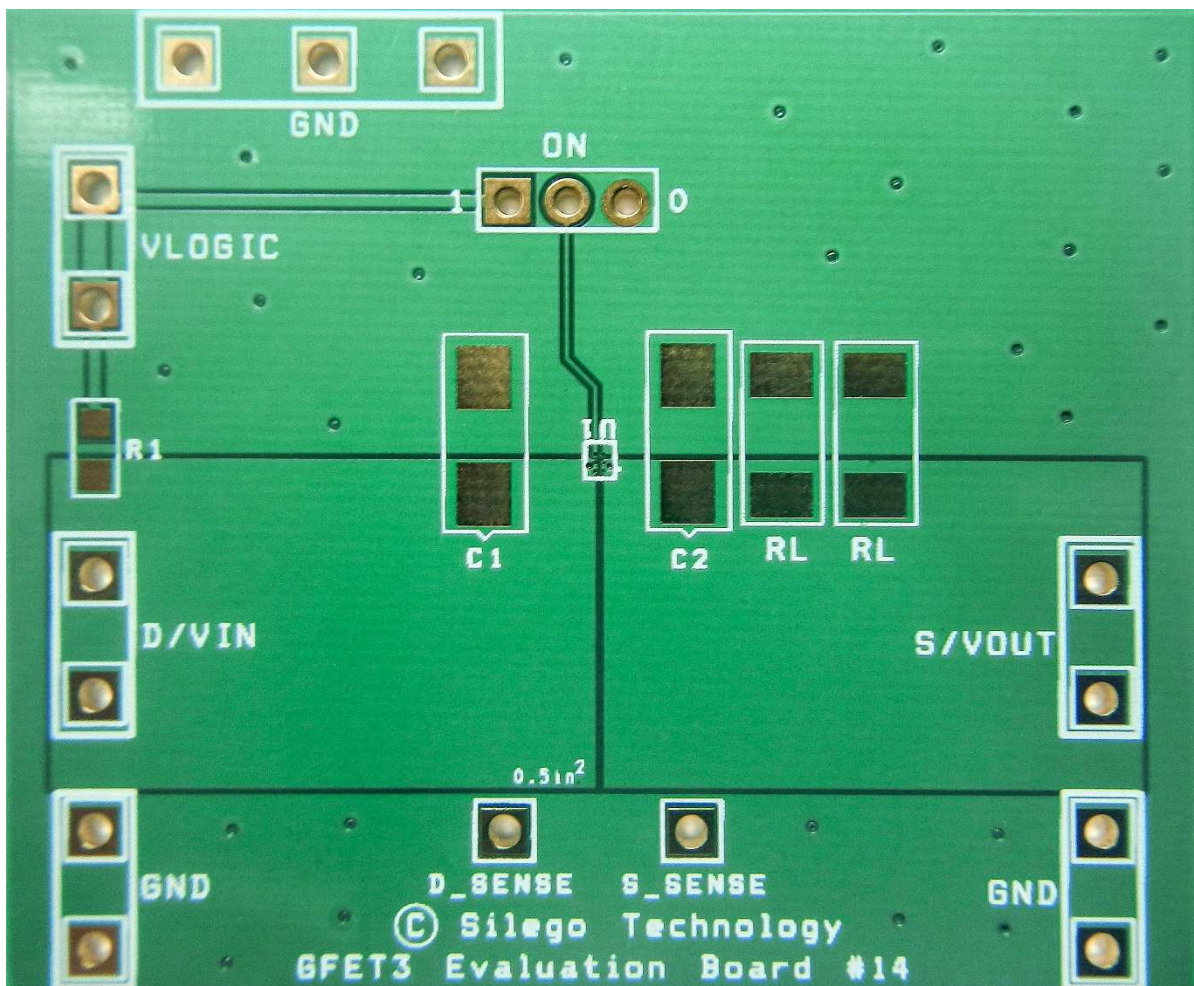

Figure 8. SLG59M1685C Evaluation Board.
1. Since the VIN and VOUT pins dissipate most of the heat generated during high-load current operation, it is highly recommended to make power traces as short, direct, and wide as possible. A good practice is to make power traces with an absolute minimum widths of 15 mils (0.381 mm) per Ampere. A representative layout, shown in Figure 8, illustrates proper techniques for heat to transfer as efficiently as possible out of the device;
A GreenFET Evaluation Board for SLG59M1685C is designed according to the statements above and is illustrated on Figure 8. Please note that evaluation board has D\_Sense and S\_Sense pads. They cannot carry high currents and dedicated only for RDSON evaluation.